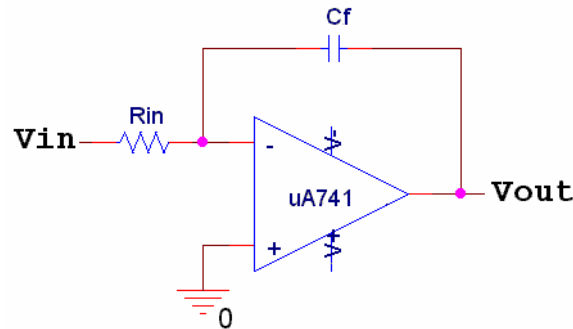

Figure C-2
*Ideal Integrator:* The circuit shown below in figure C-2 is an *ideal integrating amplifier*. Its behavior is governed by the following equation:  $V_{out} = -\frac{1}{R_{in} C_f} \int V_{in} dt$ .